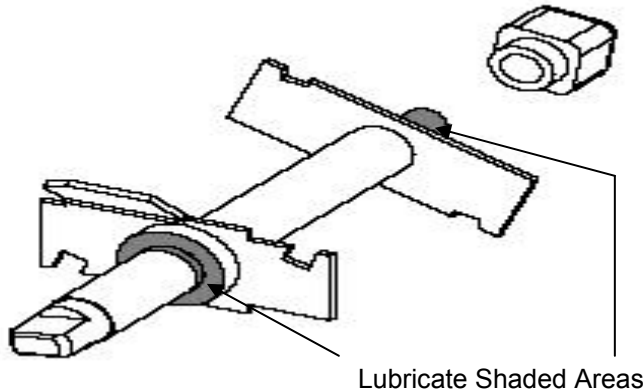

Fig. 7
a. Apply a generous amount of lubricant to the shoulder of the dasher and the area of the shaft where the white plastic portion of the assembled rear seal contacts the shaft (Fig. 7). This is easily performed by running a 1/4" bead of lubricant around the shoulder of the dasher.
b. Lubricate the front bushing (Fig. 7) and slide into the dasher.